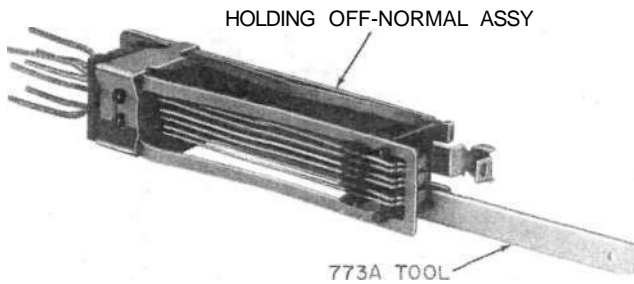

Fig. 32.1—Method of Blocking Holding Off-Normal Assembly
- (3) The holding off-normal assembly may be blocked in its operated position by inserting the 773A tool between the operate card and mounting bracket with the tool straddling the arm of the card where it passes through the bracket (see Fig. 32.1).<